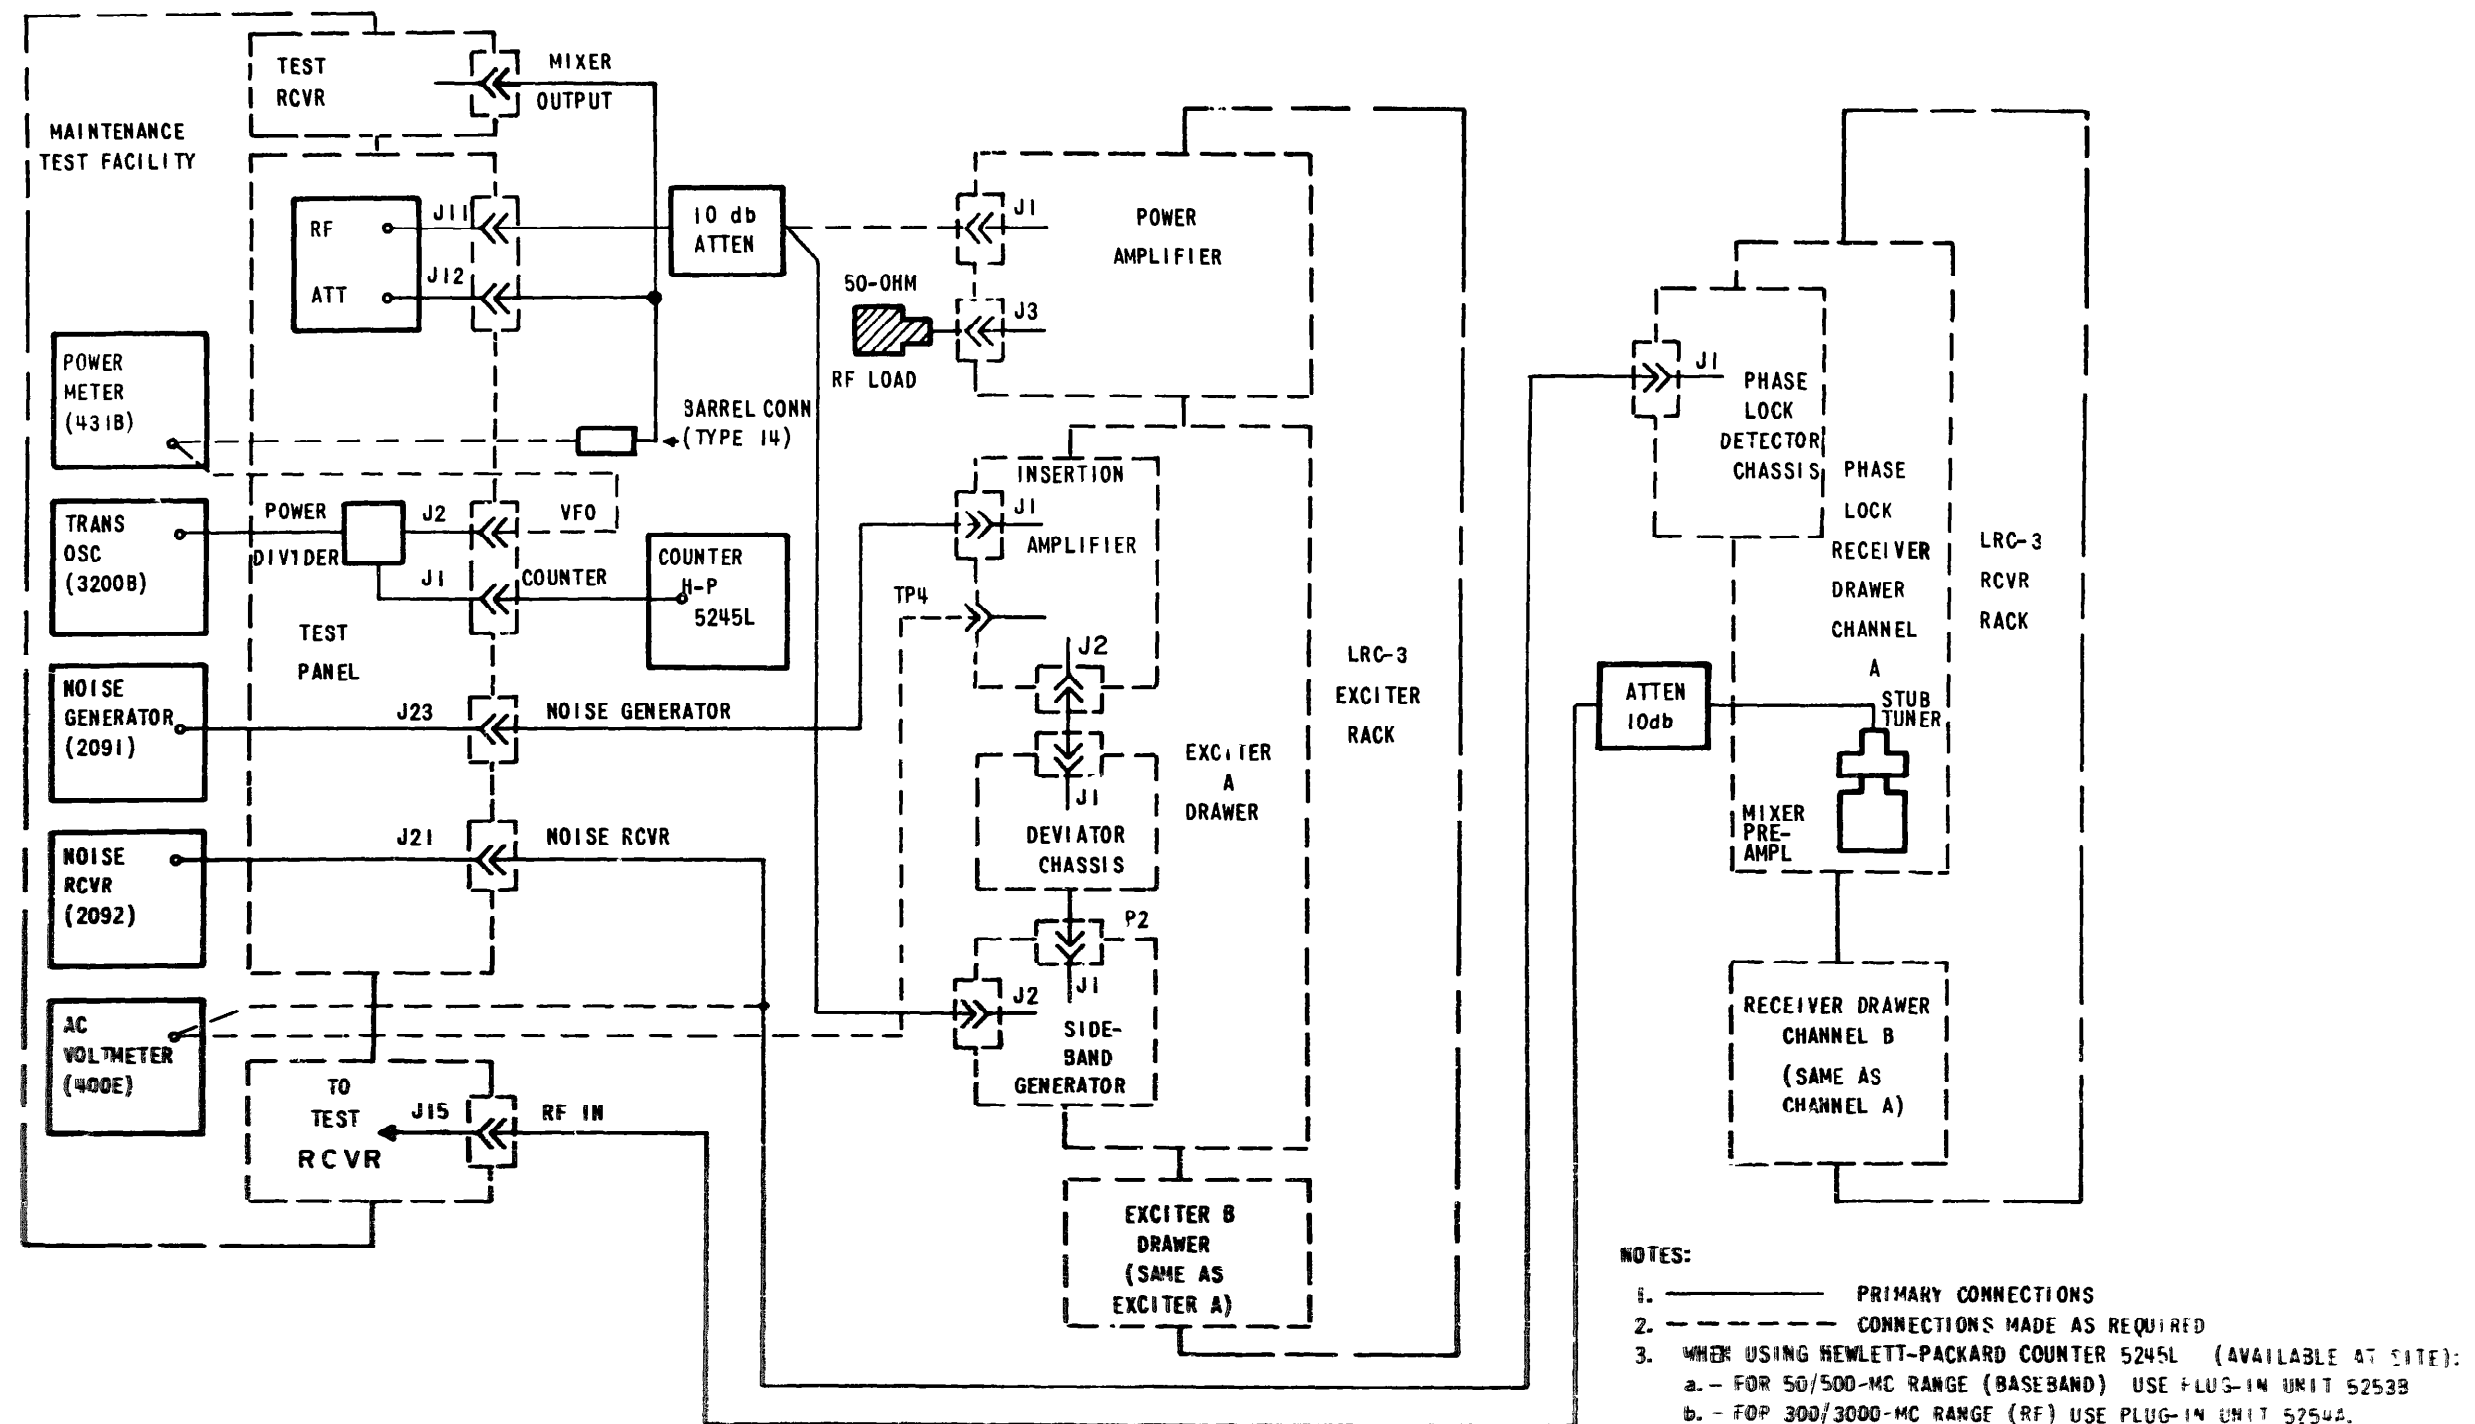

Figure 3-11. Radio Set LRC-3 Back-to-Back Test.
- e. **Connect test cables between the Maintenance Test Facility and the LRC-3 exciter and receiver as shown in figure 3-11.**